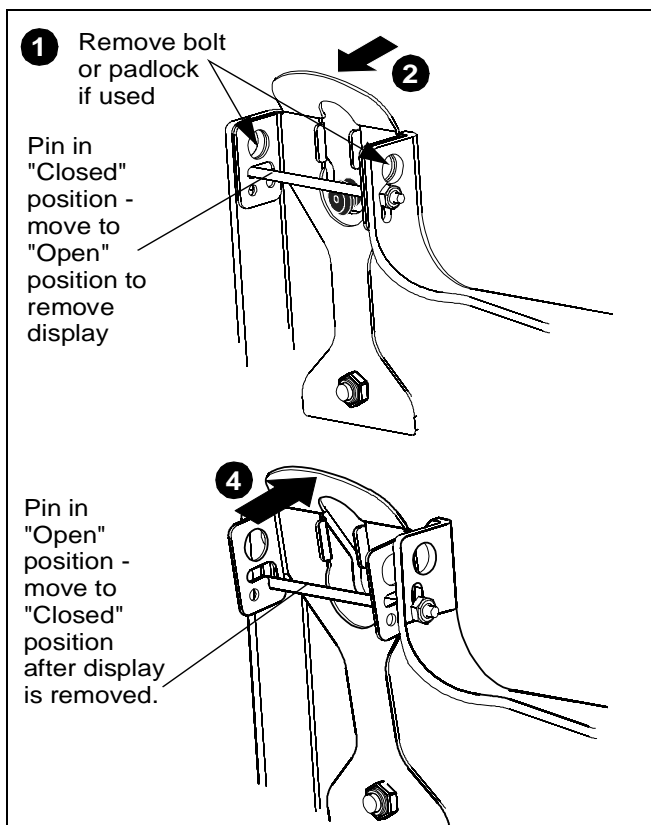

Figure 1
2. Pull back on flag on upper mounting hole and press pin down into "Open" position. (See Figure 1)